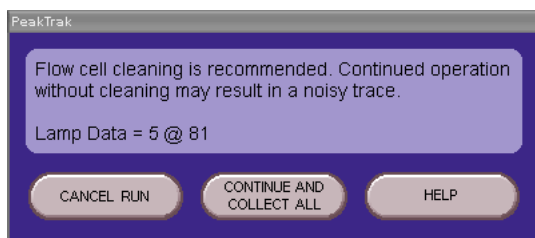

Figure 7-4 Flow cell cleaning message
- frequent messages recommending flow cell cleaning (Figure 7-4).
When the lamp energy is lower than normal, the system will recommend flow cell cleaning (Figure 7-4) before starting a separation run.
When the indicator is in the yellow, the lamp energy and flow cell are ready for the next run. However, continuing the cleaning for greater raw lamp energy should reduce the frequency of flow cell cleaning messages (Figure 7-4).